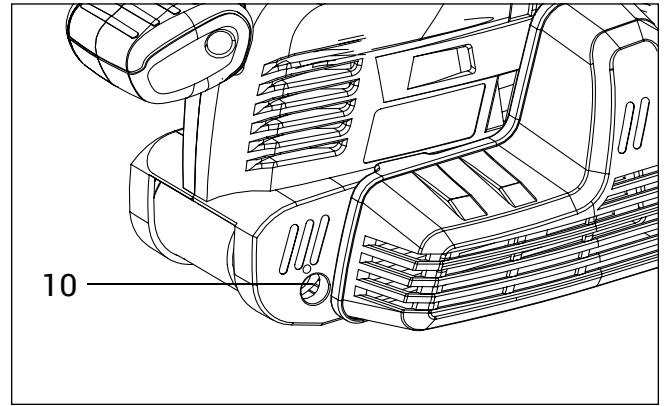

Fig. 2
7. To adjust the sanding belt, turn the belt tracking adjustment screw (Fig. 2 - 10) with a Phillips-head screwdriver (not included) either clockwise or counterclockwise until the sanding belt runs down the center. Turning the screw clockwise will cause the belt to track more to the left (as viewed from the bottom of the sander); turning the screw counterclockwise will cause it to track more to the right. Run the sander for a short period of time and adjust the tracking until the sanding belt is running in the center of the roller. Make sure the belt does not rub against the casing of the sander.